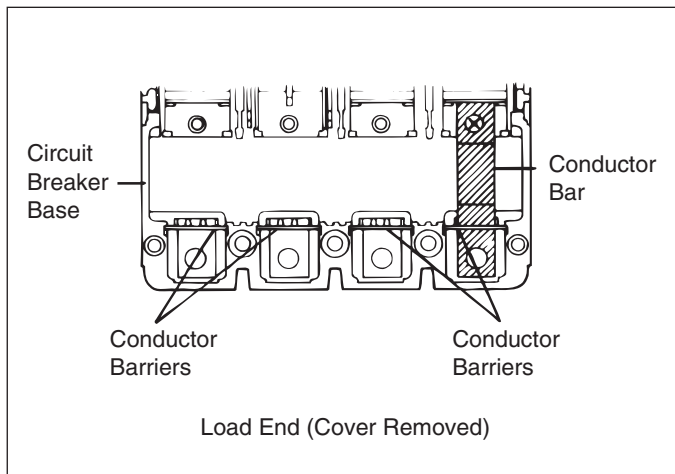

Figure 2 Conductor Barriers (4-pole Circuit Breaker Frame Shown).
Remove conductor barriers from base (see Figure 2).
**If installing a 4-pole trip unit, remove conductor bar from the right-hand (fourth) pole (Figure 2). Discard the conductor but keep the retaining screw.**
Install conductor barriers in slots in base (see Figure 2).